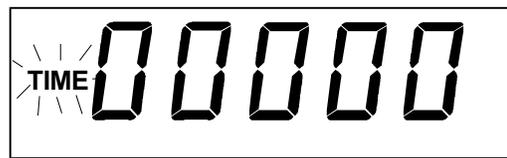

Figure 5
Note: Procedure is same, except display lacks decimal point (see **Figure 5**).
(+/- 5), then proceed to step (3) (see Figure 5). Zero point is set.
b) If display flashes*  (= "1 more"), then return to step (2).